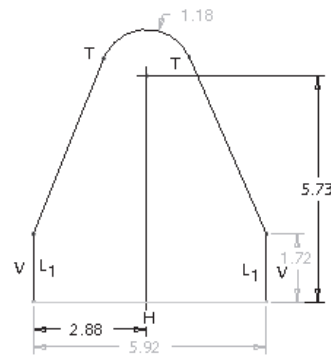

Figure 2-26 Sketch with all entities, weak dimensions, and weak constraints
4. Press the middle mouse button to end the circle creation. The sketch is complete and appears similar to that shown in Figure 2-26.
5. Press the middle mouse button to place the dimension below the sketch, refer to Figure 2-26.